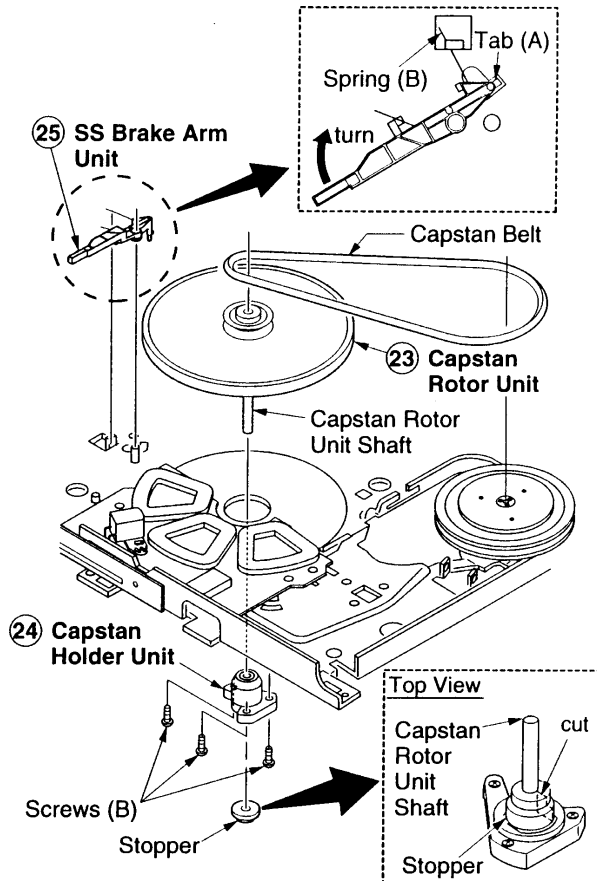

Fig. 17 - Capstan Rotor Unit/Capstan Holder Unit/SS Brake Arm Unit Removal
MECHANISM DISASSEMBLY (Continued)**Capstan Rotor Unit/Capstan Holder Unit/SS Brake Arm Unit Removal (Figs. 17, 18)**
3. Pull up on the capstan rotor unit to remove it (Fig. 17).
4. Remove three (3) screws (B) and then remove the capstan holder unit.
5. Unhook spring (B).
6. Turn the SS brake arm unit so that tab (A) lines up with the notch and then remove the SS brake arm unit.